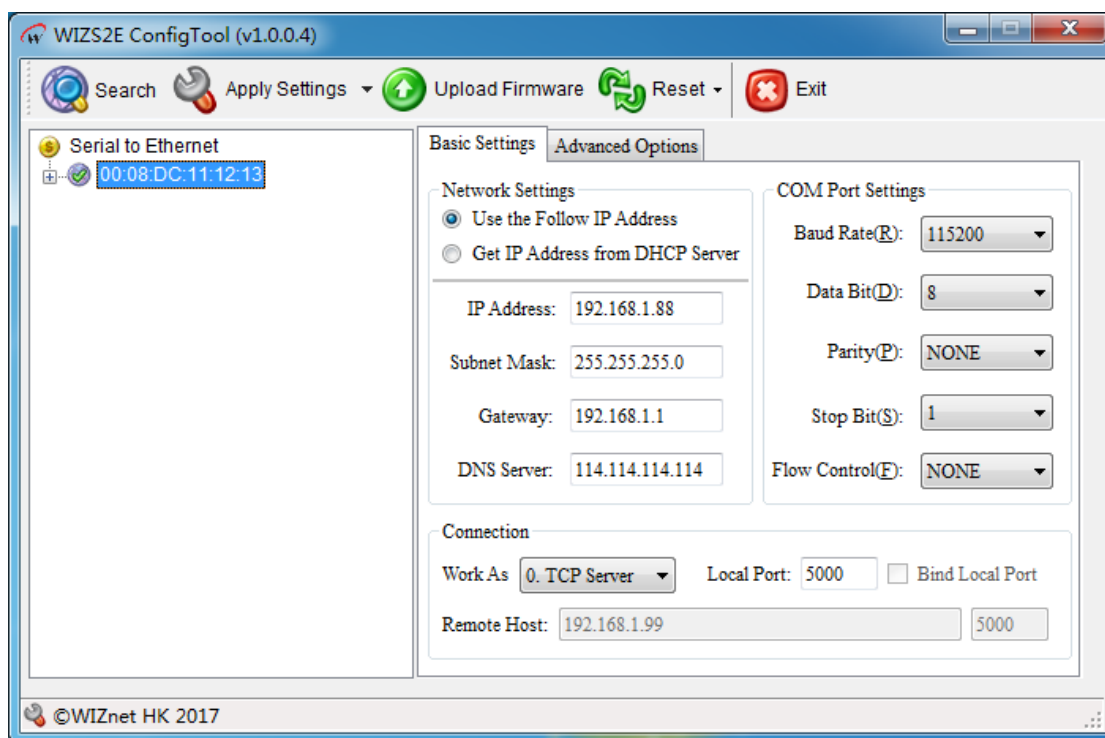

Figure 4-2 WIZ2E ConfigTool search result
3. Press  button, it shows the IP address information as the following figure 4-2.